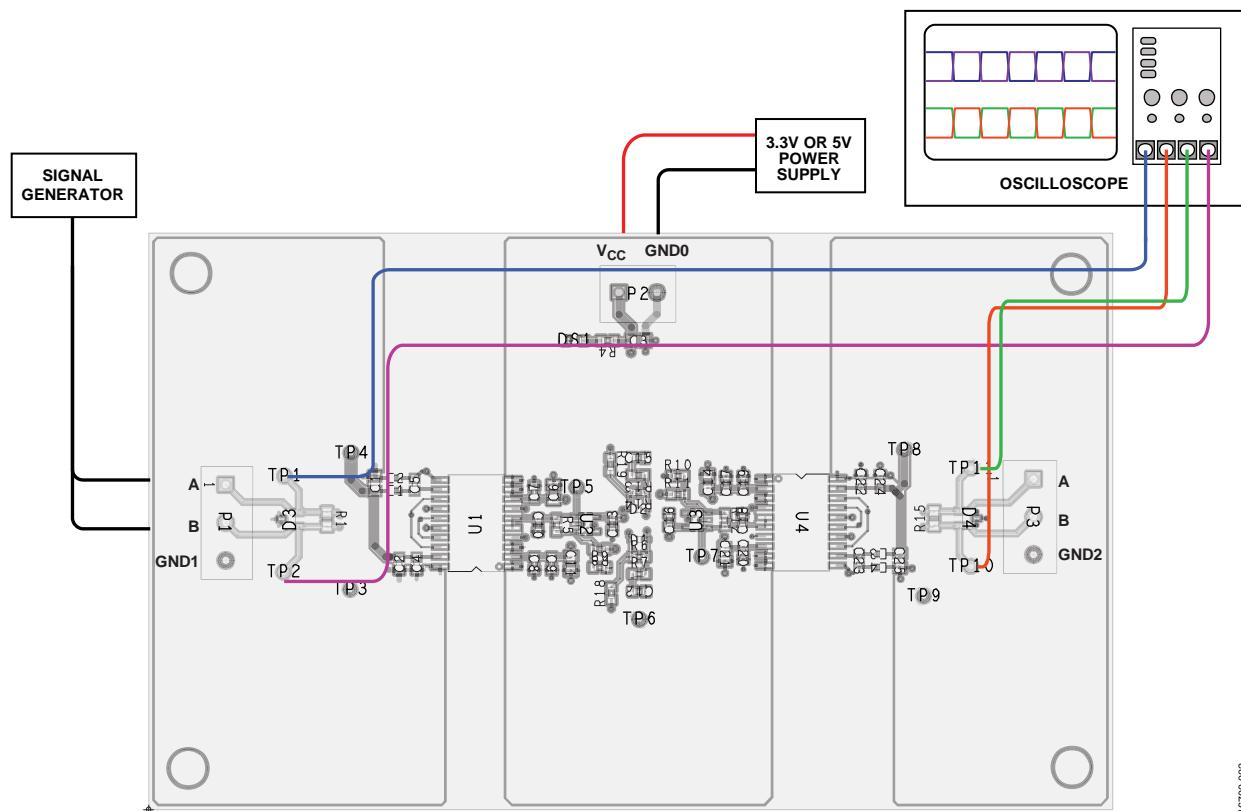

Figure 2. Basic Operation of the EVAL-ADM2587EEB2Z Isolated RS-485 Repeater Evaluation Board
Figure 2 shows the EVAL-ADM2587EEB2Z evaluation board. The evaluation board does not require jumper connections because flow control is implemented with an ADCMP600 high speed comparator circuit. The board is configured as half-duplex and has a $120\ \Omega$ termination resistor fitted on the receiver inputs. Test points are included on the power and signal lines on both sides of the isolation barrier. Power the evaluation board with 3.3 V or 5 V on the P2 terminal block. Confirm basic operation of the evaluation board using a signal generator at the P1 terminal block. Refer to the Cable Connection and Bus Capacitance section for more information. Use an oscilloscope to confirm that the voltage waveforms at TP1 (A) and TP2 (B) match the output of the RS-485 repeater at TP10 (B) and TP11 (A).
Use the EVAL-ADM2587EEB2Z P1 and P3 terminal blocks to attach a Category 5e RS-485 cable to the ADM2587E A and B bus pins. Route the RS-485 cable to other RS-485 evaluation boards to create a multinode setup. Alternatively, use a signal generator to simulate bus differential voltage inputs to P1, as shown in Figure 2. In this configuration, insert a 1.5 nF wire wound capacitor between the A and B connectors on both the P1 and P3 terminal blocks. This 1.5 nF capacitor simulates the capacitance from 20 m of Category 5e RS-485 cable.